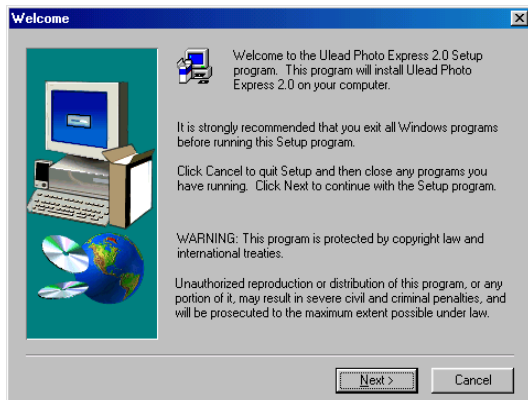

Figure 11: Welcome window
5. Select the language you wish to use during the installation of Ulead Photo Express 2.0 and click on 'OK'. (Figure 11). The welcome window will appear.